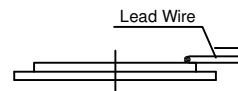

Fig.3.2 Direction of Lead Wire
a) Wire to be soldered on ceramic at the edge. It should withstand minimum 13N force applied in 180° .The wire should not come out before this .The ceramic can be either glued on a surface of can be held in hand.(Fig.3.2)